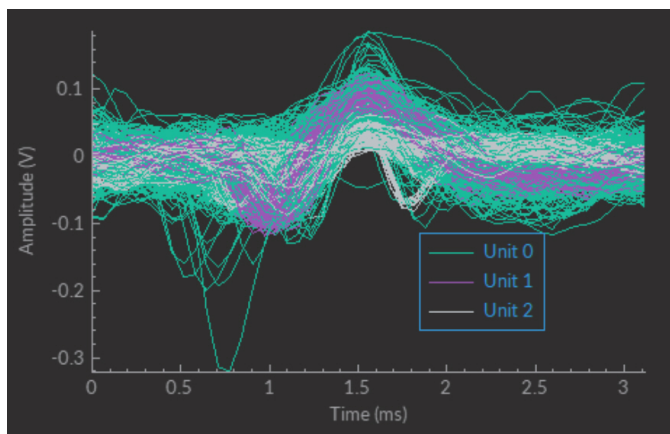

Figure 4.43: Waveform box
2. The **Waveform box** (Fig. 4.43) shows a superimposed view of all different spike waveforms recovered. Each different color corresponds to a different unit, as shown on the legend.